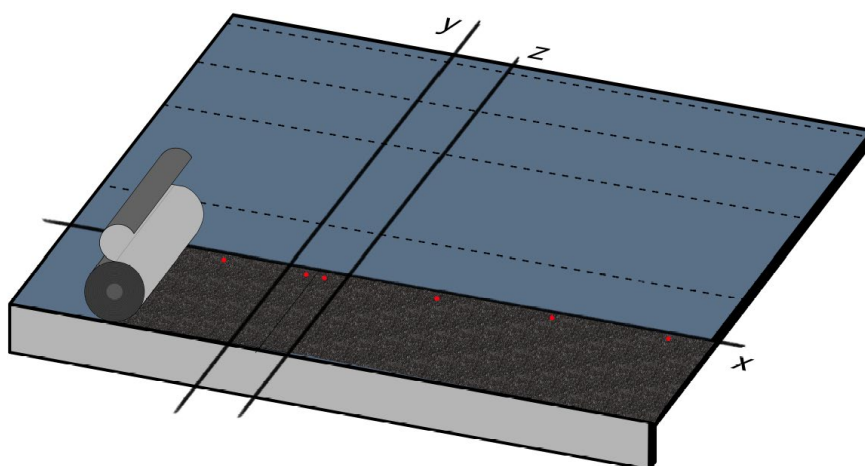
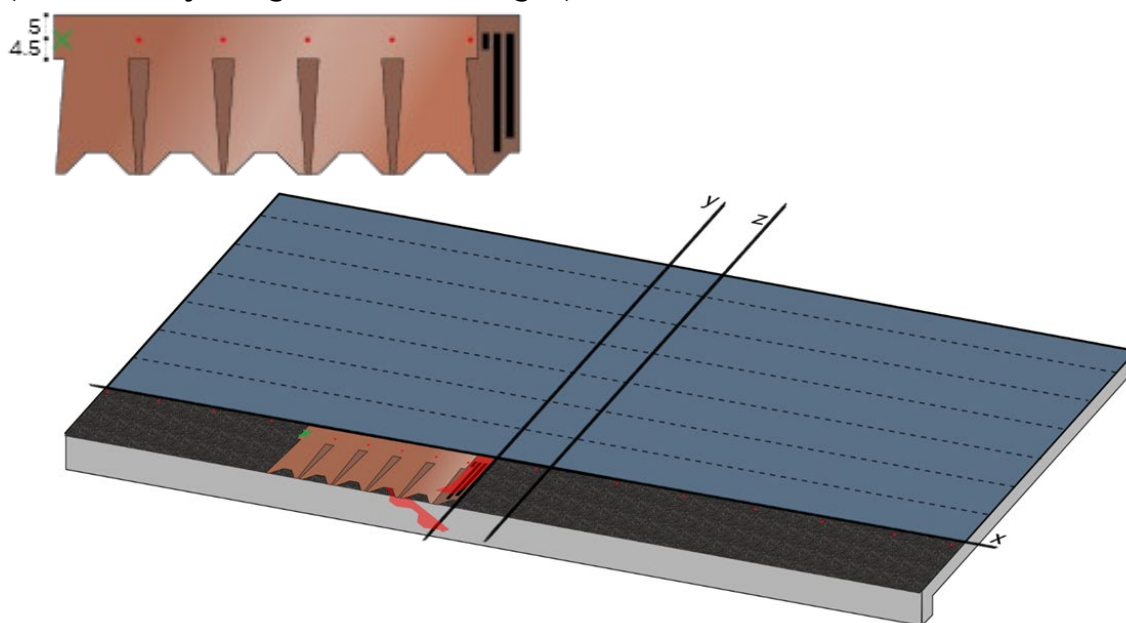
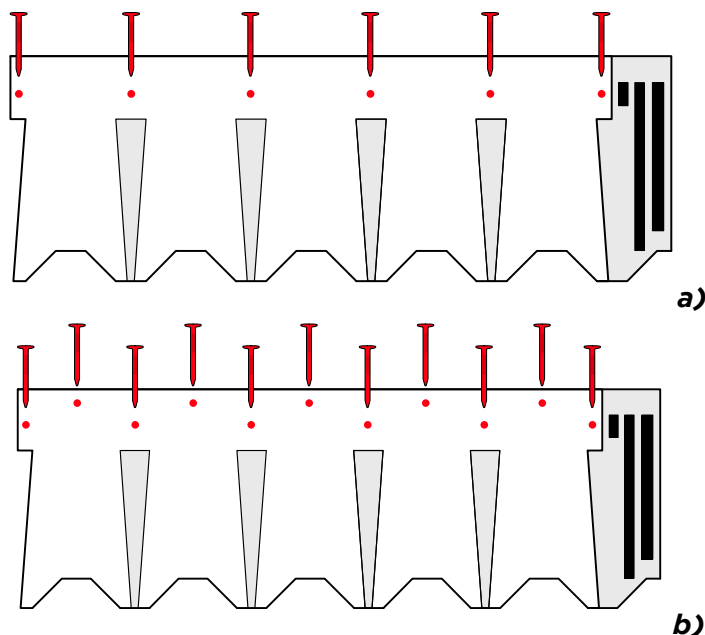

Fig. 6 - Shingles installation
Fig. 7 - Installation of the first Master Coppo shingle
Fig. 11 – Shingle nailing **a)** slopes <60°; **b)** slopes >60°
- Then, proceed with the installation of the shingles of the starting row: align the lateral edge of the Start Line SA on the vertical **y** and the upper edge on the horizontal **x**. Remove the protective backing film and fix the Start Line SA with nails placed at the upper ends. – Fig. 6. Position and nail the Start Line SA adjacent to each other, until all the pitches are completed
- Proceed with the installation of the first row of shingles: align the lateral edge of the first shingle on the vertical **z** and the upper edge on the horizontal **x** – Fig. 6. Nail the shingle to the substrate by placing 4 nails per shingle, between the two white lines, as per Fig. 11 a). In the event of pitched slopes between 60° and 85°, place 2 additional nails close to the second and third nail, for a total of 6 nails per shingle, as per Fig. 11 b).
- Proceed with the installation of the first shingle: remove the protective film from the side and the back of the shingles. Align the right edge of the first shingle with the vertical **y** and the upper edge with the horizontal **x** – Fig. 6. Nail the shingle to the substrate by placing 5 nails per shingle, as shown in Fig. 7. The sixth nail (indicated by the green cross in Fig. 7) will be fixed later.
- Install the remaining shingles of the first row, moving towards the left: remove the protective films, lift the left edge of the first installed shingle, slide the new shingle underneath, and proceed to fix both the new and the old shingle with 6 nails, as shown in Fig. 11 a).
- In the case of roof slopes between 60° and 85°, position 5 additional nails, for a total of 11 nails per shingle, as shown in Fig. 11 b).